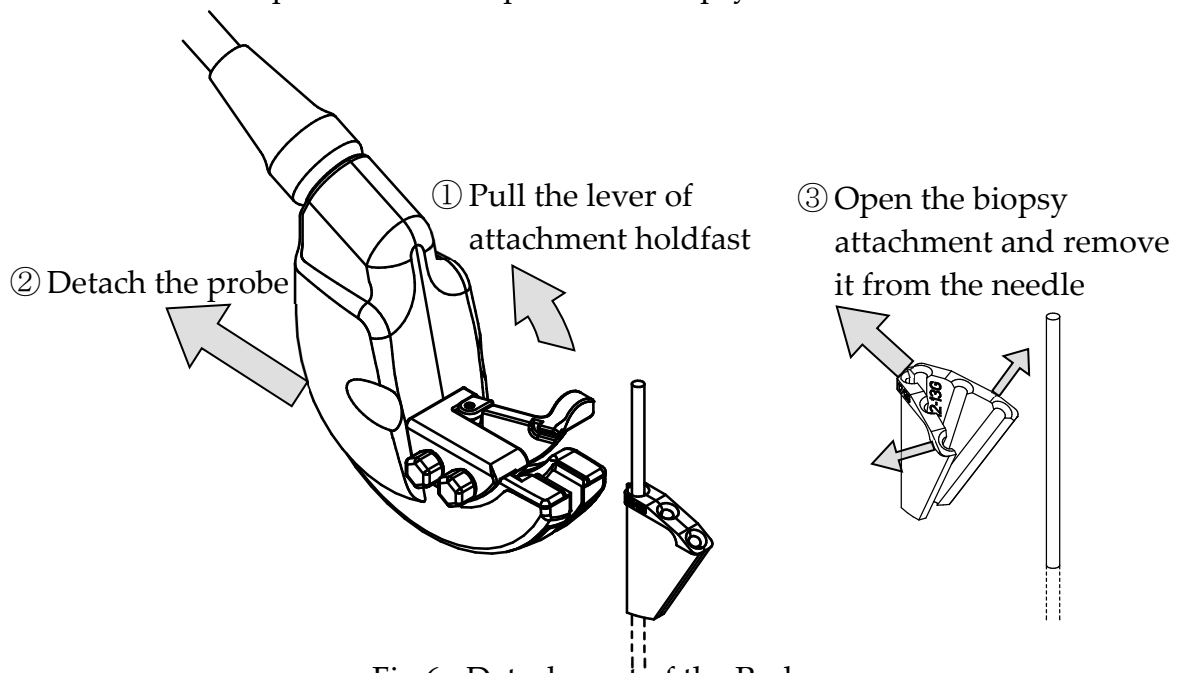

Fig.6 Detachment of the Probe
- 1) Remove the biopsy attachment and biopsy attachment holdfast from the biopsy probe (see figure 6 and 15).